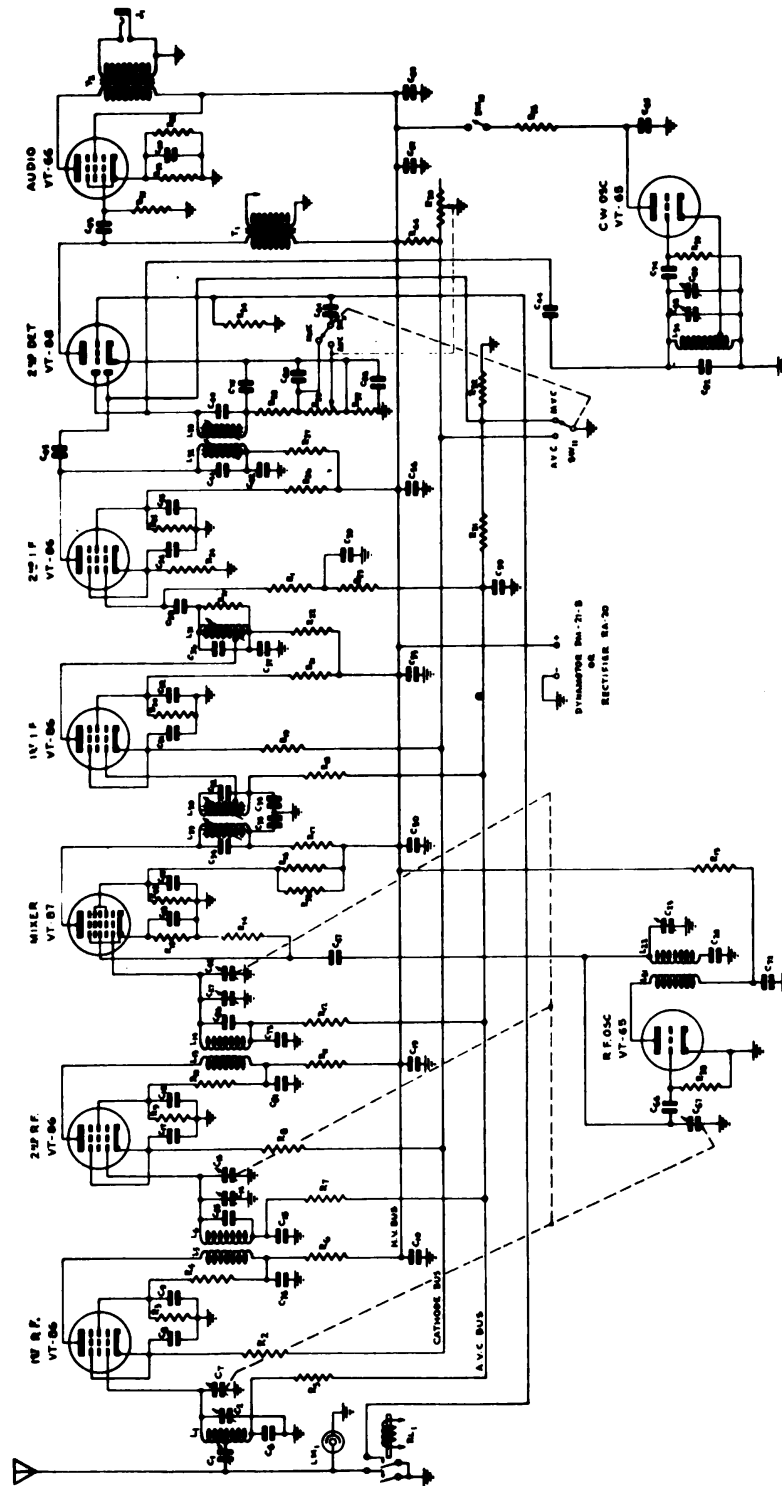
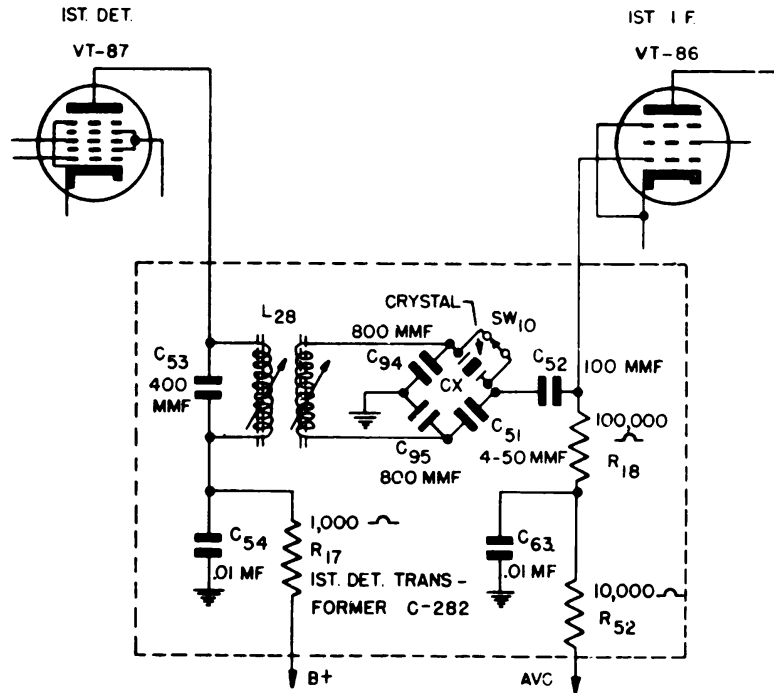

Figure 7.—Functional circuit diagram of BC-314(\*) and BC-344(\*)
Figure 10.—Circuit diagram, crystal filter circuit.
Receivers BC-312-(\*), BC-312-(\*X), BC-314-(\*), BC-342-(\*), and BC-344-(\*), are of the multi-band, integral-coil, super-heterodyne type. Metal tubes are used throughout, although "GT" type tubes may be used in the first intermediate-frequency amplifier, second intermediate-frequency amplifier and second detector-first audio amplifier stages. Figure 6 shows a functional circuit diagram of Receivers BC-312-(\*), BC-312-(\*X) and BC-342-(\*); figure 7 is a functional circuit diagram of Receivers BC-314-(\*), and BC-344-(\*), showing the connections set up by the BAND CHANGE switch to receive a signal in one particular frequency band. (The crystal filter circuit used in some models is shown in figure 10.) In these functional diagrams the BAND CHANGE switch and all coils and capacitors not essential to the operation on that band are omitted for the sake of clarity. These receivers employ two stages of pentode radio-frequency amplification, a first detector (pentagrid mixer) stage, and a separate triode radio-frequency oscillator (H.F.O.); they also employ two stages of pentode intermediate-frequency amplification; a duplex diode-triode second detector, AVC rectifier, first stage of audio frequency; a separate stage of pentode audio-frequency. A separate triode oscillator (B.F.O.) is provided to produce a beat note for continuous-wave reception.
see figure 10.**
**19. Crystal Filter (fig. 10).—**
### b. Low-frequency Group (fig. 7).—
Receiver BC-312-HX incorporates crystal filter, see figure 10.